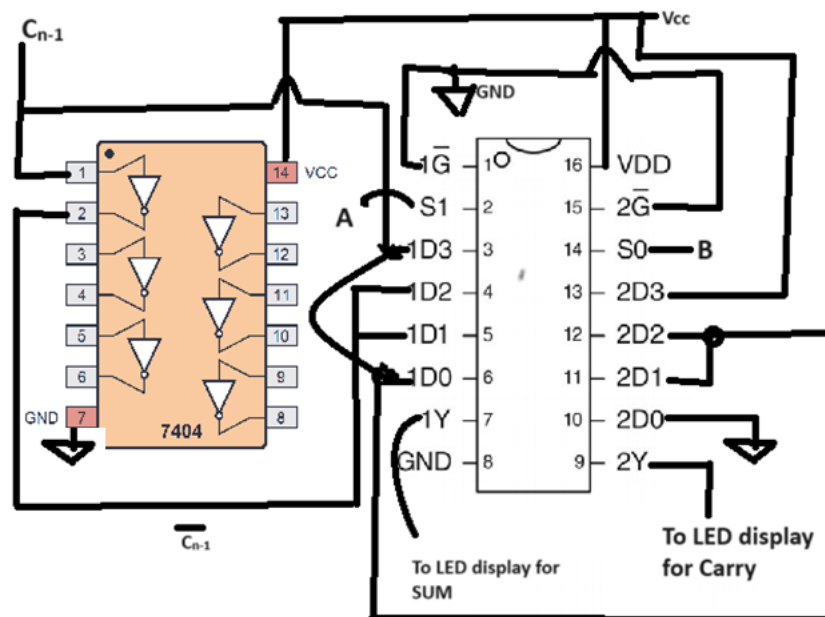
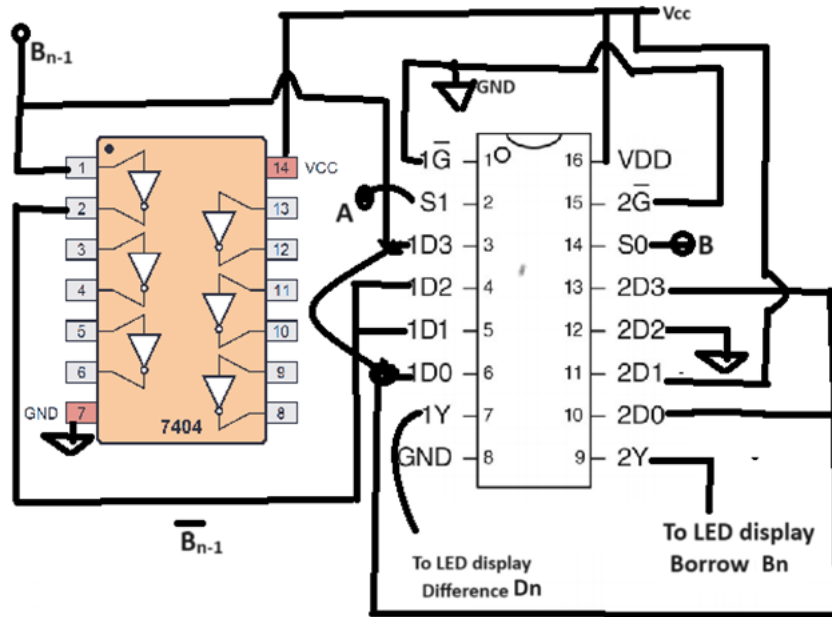

Figure 3: Connection diagram of Full Adder using 74153
Figure 4: Connection diagram of Full Subtractor using 74153
MUX map for SUM is implemented in A part of MUX IC & MUX map for Carry is implemented in B part of MUX IC, A & B are select lines as indicated in **Figure 3**:
MUX map for Difference is implemented in A part of MUX IC & MUX map for Borrow is implemented in B part of MUX IC, A & B are select lines as indicated in **Figure 4**:
- Data line inputs for FA:** Make use of 7404 and create input connections to MUX-A and MUX-B part of IC-74153 as shown in Figure 3. Connect toggle switches (input switches) to A, B, Cin.
MUX-A and MUX-B part of IC-74153 as shown in Figure 4. Connect toggle switches (input switches) to A, B, B_{n-1} .
Draw IC Connection Diagram for Figure 3 and Figure 4:
2. Able to connect digital ICs and make connections as per circuit diagram of Fig 3 and 4.